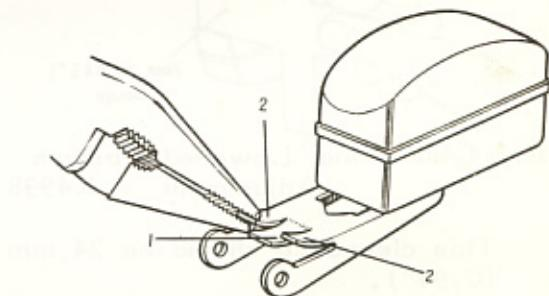

Fig.4-58 Float Tab
To obtain a correct clearance, bend the tab at (1) in figure 4-58.
To obtain a correct clearance, bend the tab at (2) in figure 4-58.